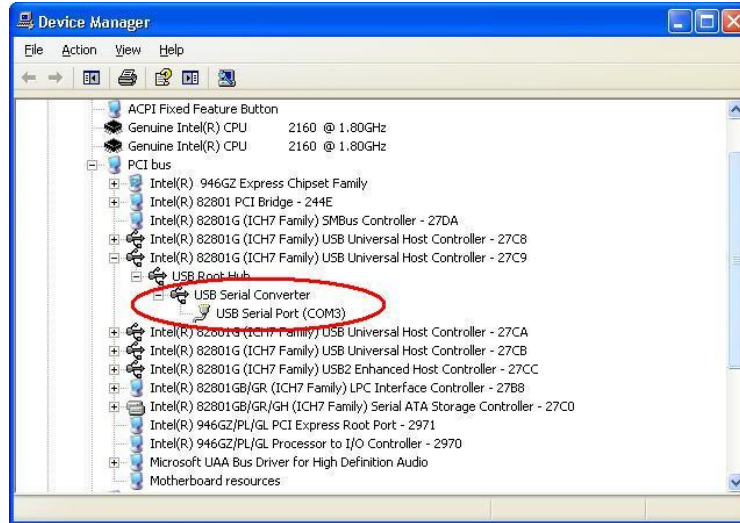

Figure 18
- Open the Device Manager (located in "Control Panel\System") then select the "Hardware" tab and click "Device Manger") and select "View > Devices by Connection", the device appears as a "USB Serial Converter" with an additional COM port with the label "USB Serial Port" (Figure 18). If the device is based on the FLC DEV BOARD, two ports will be available from a composite USB device.